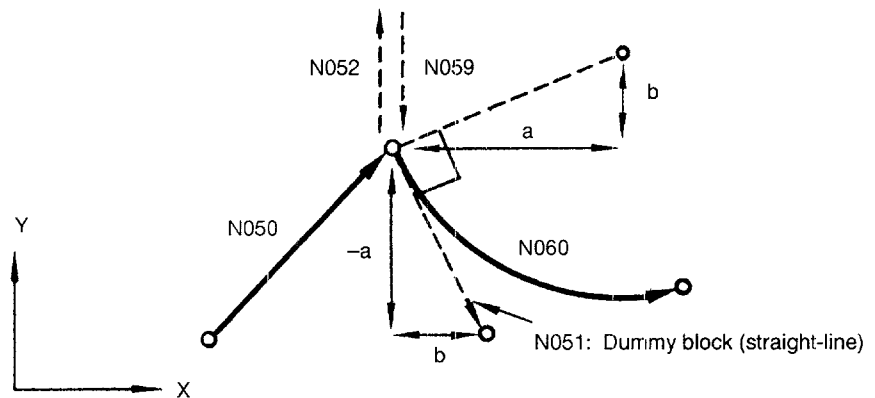
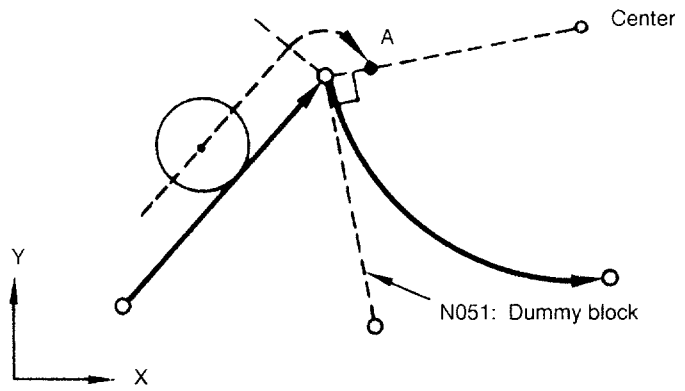

Fig. 3.52 Insertion of Dummy Block
Fig. 3.53 Movement to Point A by Execution of Dummy Block
- If the object of the dummy block is circular interpolation, enter the dummy block as shown in the example program given below. Insert the dummy block in which the straight line expressing the tangential direction at the start point of circular interpolation is specified as shown in Fig. 3.52. The cutting tool moves to point A as shown in Fig. 3.53 by the execution of the dummy block so that the following circular interpolation can be executed.